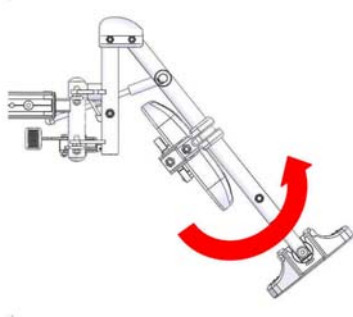

Figure 5-18
5.3.1.4.4 Raise the footrest to an appropriate angle to accommodate the user's leg position and flexibility. (Figure 5-18)